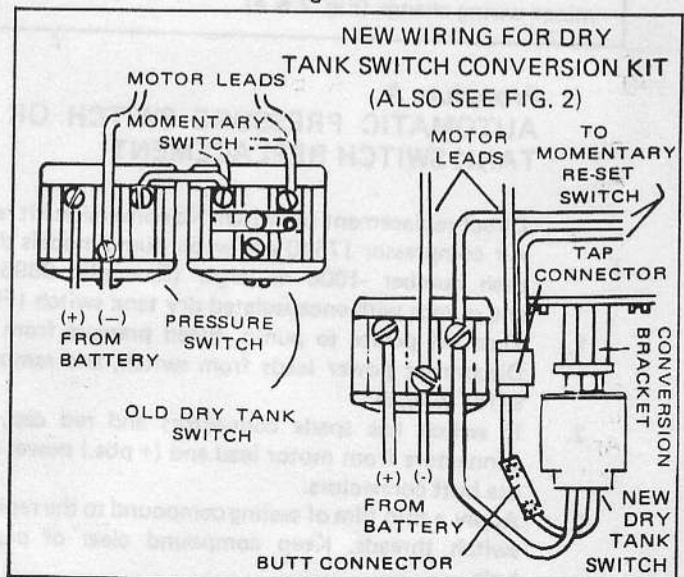

Figure 5.
When a conversion kit is required as in Figure 5, follow instructions 1 through 5 above and then continue with 6 below.
8. Attach second lead from dry tank switch to pressure switch terminal as in Figure 5 or to lead with tap connector as in Figure 2.
9. Splice other momentary switch lead to screw terminal as in Figure 5 or to extended pressure switch lead as in Figure 2.